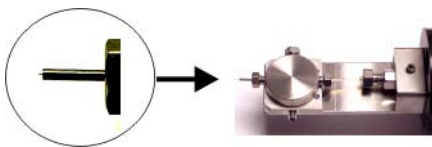

Figure 6-16 Setting the Silica Length
- b. Reposition the union so that approximately 0.5 to 1 mm of fused silica protrudes from the nebulizing capillary (Figure 6-16).